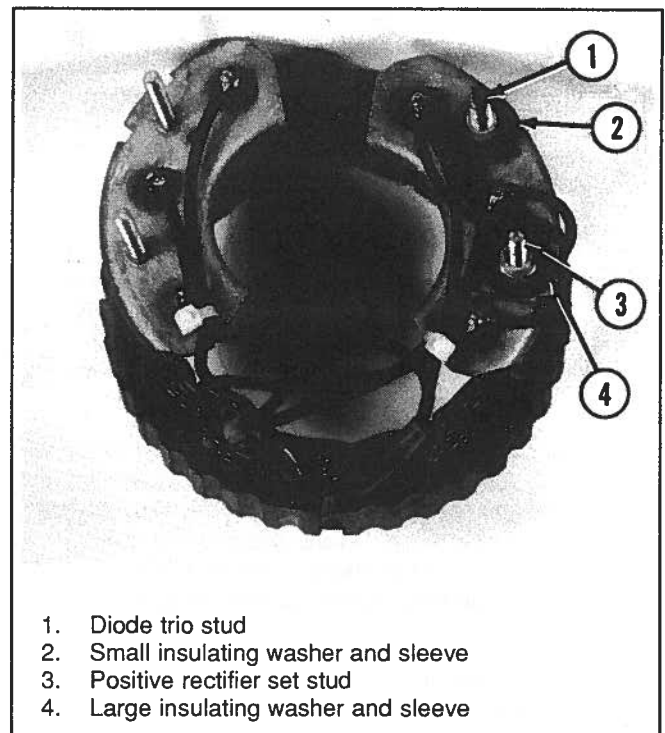

Figure 6-109. Insulating Washer Installation
8. Place insulating washers and sleeves on diode-trio stud and positive-rectifier-set stud, as shown in Figure 6-109.